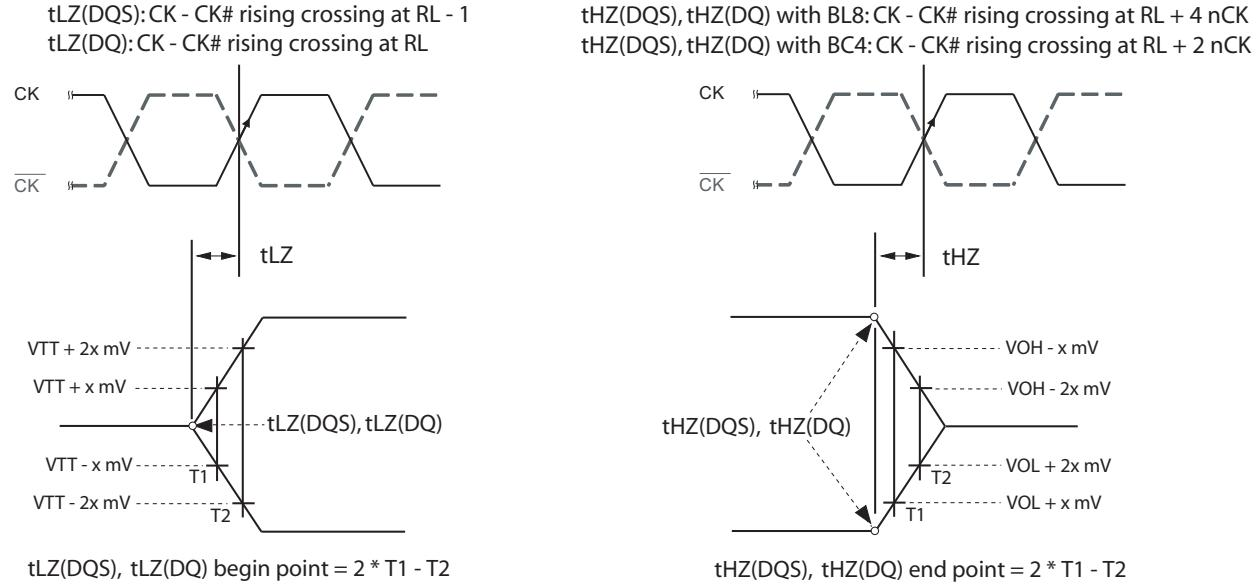

Figure 30 — tLZ and tHZ method for calculating transitions and endpoints
tLZ(DQS), tHZ(DQS) for preamble/postamble (see 4.13.2.3 and Figure 30)
4.13.2.3 tLZ(DQS), tLZ(DQ), tHZ(DQS), tHZ(DQ) Calculation
tHZ and tLZ transitions occur in the same time window as valid data transitions. These parameters are referenced to a specific voltage level that specifies when the device output is no longer driving tHZ(DQS) and tHZ(DQ), or begins driving tLZ(DQS), tLZ(DQ). Figure 30 shows a method to calculate the point when the device is no longer driving tHZ(DQS) and tHZ(DQ), or begins driving tLZ(DQS), tLZ(DQ), by measuring the signal at two different voltages. The actual voltage measurement points are not critical as long as the calculation is consistent. The parameters tLZ(DQS), tLZ(DQ), tHZ(DQS), and tHZ(DQ) are defined as singled ended.